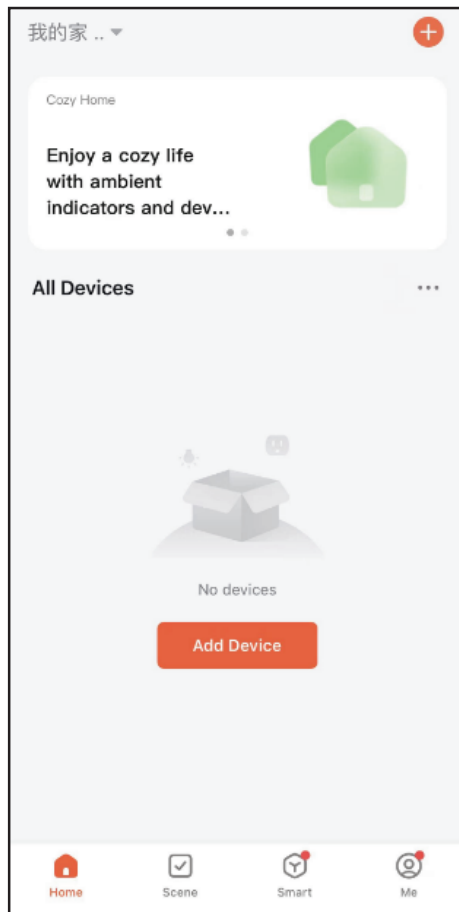

Figure 1
1. Create an account and log in.(Figure 1)